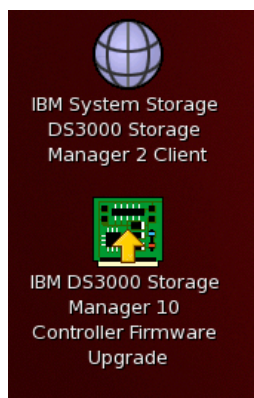

Figure 6-23 SM Manager on the Linux desktop
12. Optionally, verify the installation on the Desktop by finding the icon shown in Figure 6-23.